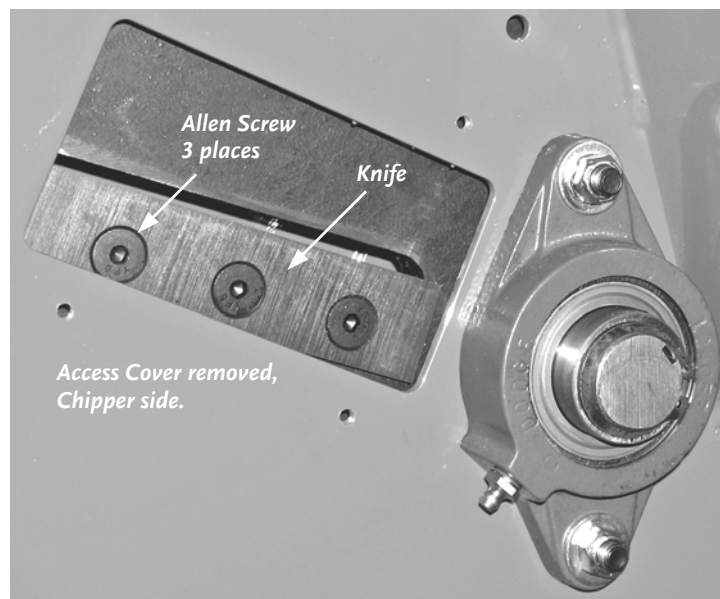

Figure 14
1. Using a 5/16" Wrench, remove both Access Covers (Chipper and Drive Side) from the Chipper Box (**Figure 14**).
2. Rotate the Chipper Disk using a stick until the three (3) countersunk Allen Screws and Lock Nuts attaching the Knife to the Flywheel are visible through the Access Openings (**Figure 14**).
6. Repeat Steps 4 and 5 for the remaining two (2) Allen Screws.
10. Double-check all three (3) Screws and Nuts for tightness one more time.